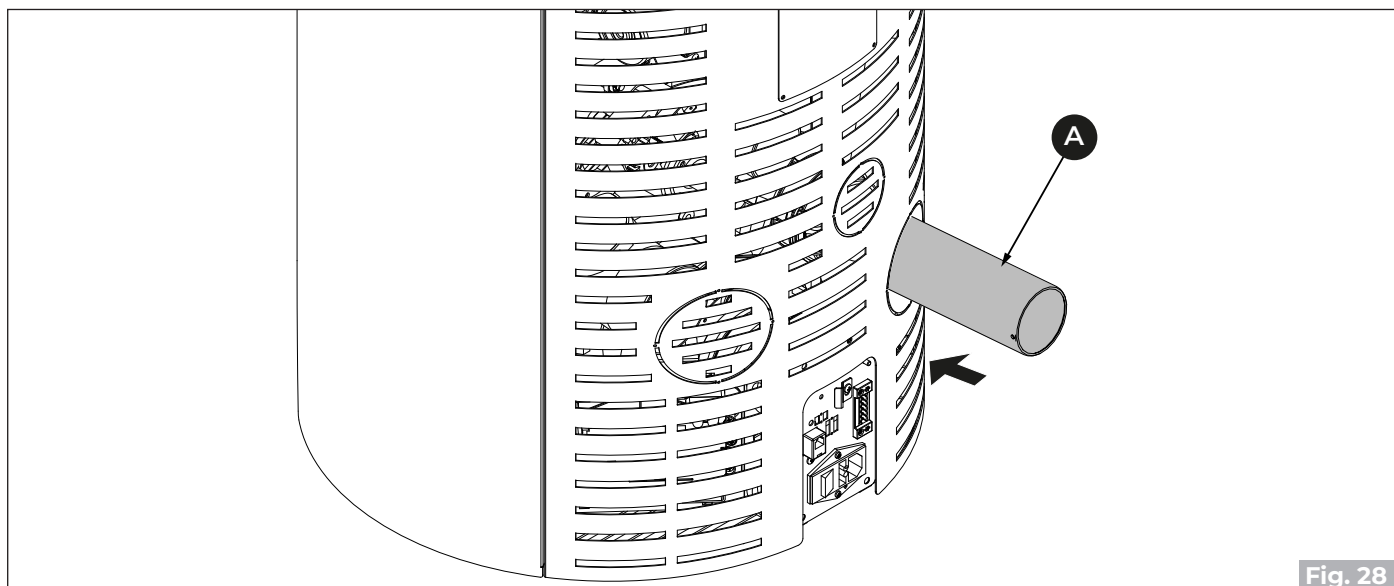

Fig. 28
- Connect the flue gas outlet pipe **(A)** ("Fig. 28").